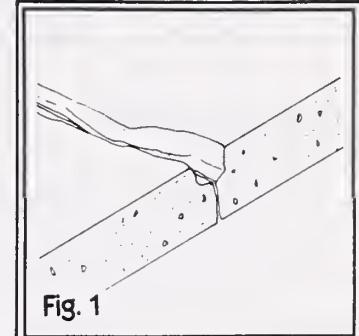

Fig. 1
2. Chisel out the crack or hole wider under the surface (fig. 1).